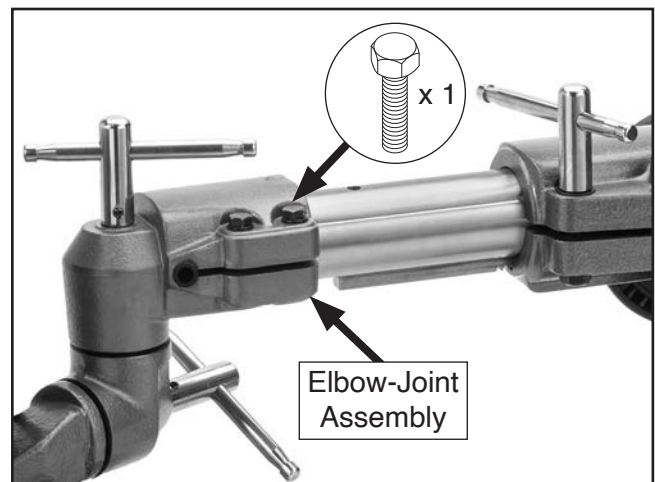

Figure 9. Elbow-joint assembly installed on overarm shaft.
4. Slide elbow-joint assembly onto overarm shaft, then secure temporarily by tightening one hex bolt shown in **Figure 9**.